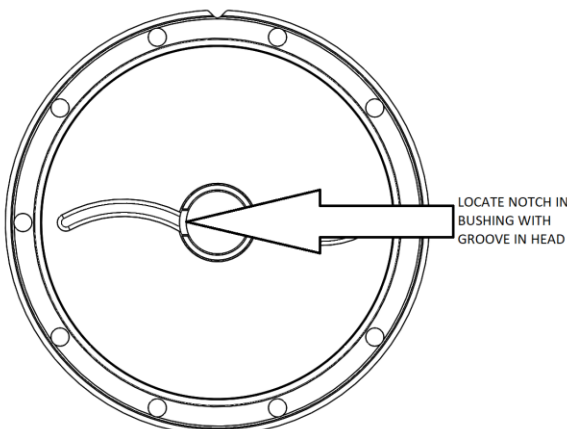

Figure 9 – Bushing Installation Orientation
1. Begin assembly on the outboard side of the pump, by laying the pump cylinder (12) on a flat surface with the desired outboard side facing up.
2. Inspect both sleeve bearings (24) for damage or wear. If damaged, bearings MUST be replaced. To replace bearings:
- c. Coat the new bearing with a quality grade of bearing grease, and place it on the inside face of the head with the notched end UP. **Align the notch in the bearing with the groove in the head. See Figure 9.**